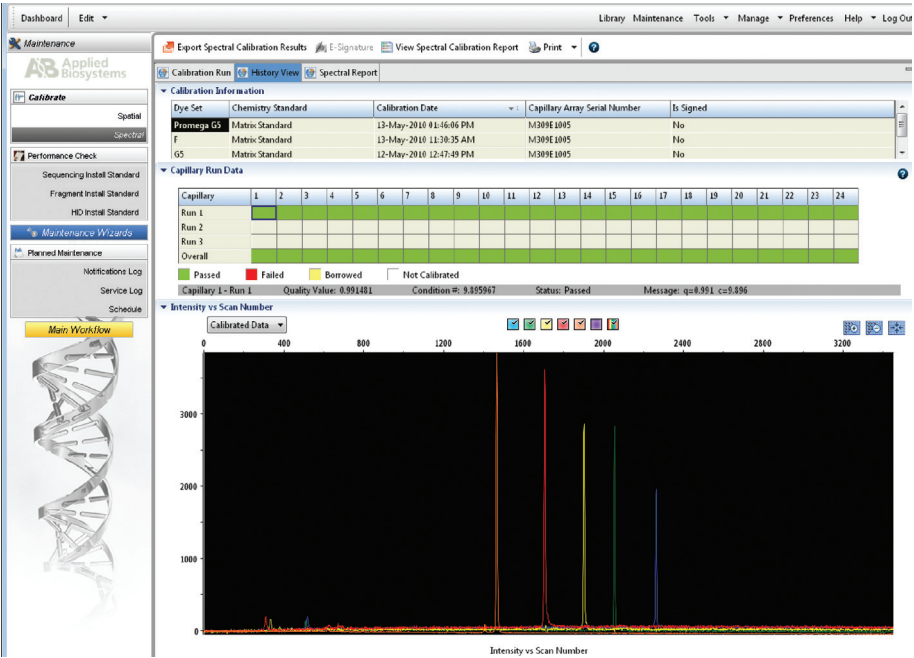

Figure 4. The Capillary Run Data display.
3. If fewer than the recommended number of capillaries pass, the spectral calibration run will be repeated automatically up to three times. Upon completion of the spectral calibration, check the quality of the spectral in the Capillary Run Data display (Figure 4), and choose either “Accept” or “Reject”.